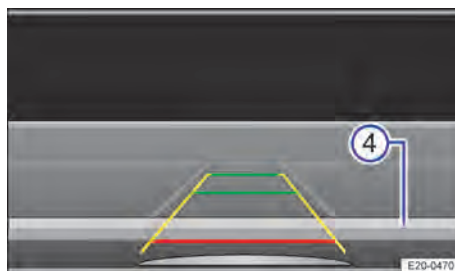

Fig. 130 Infotainment system screen display: aligning vehicle in parking space.
5. Stop when the red line reaches the rear boundary → Fig. 130 ④.